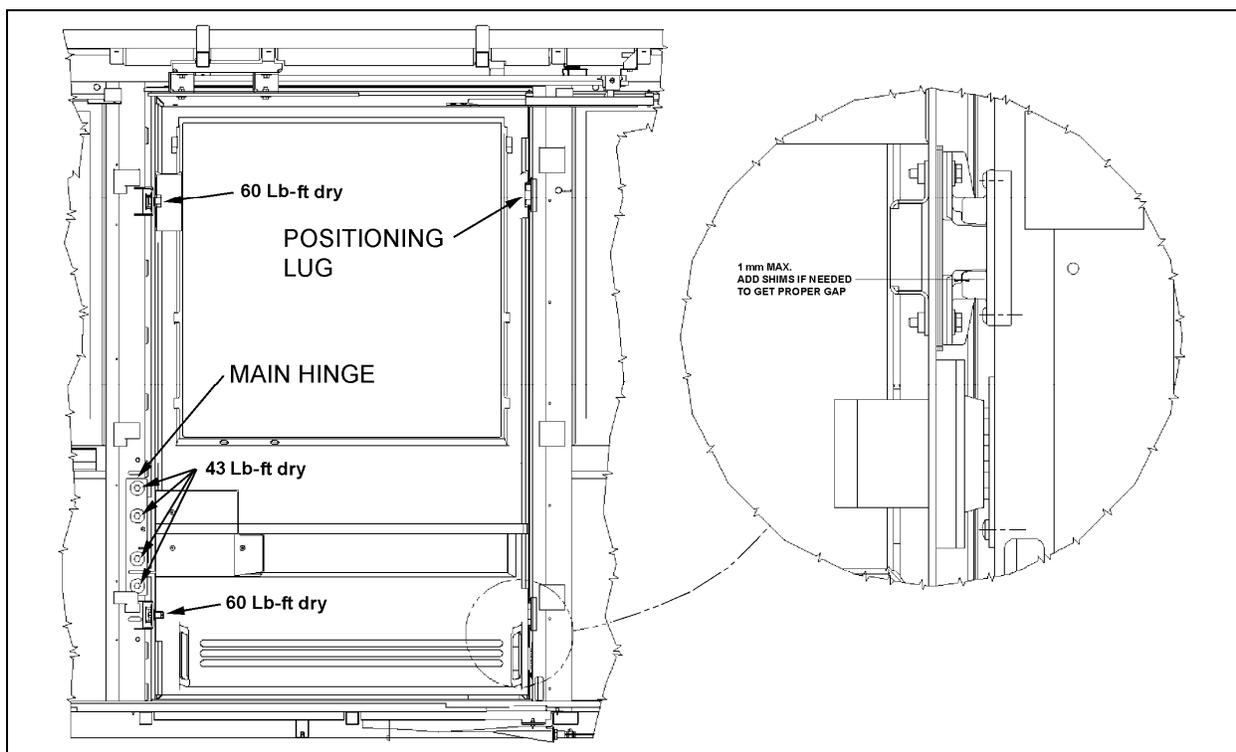

FIGURE 52: WCL SLIDING DOOR INSTALLATION
- 10. Install and adjust striker pins. (Refer to figure 52).